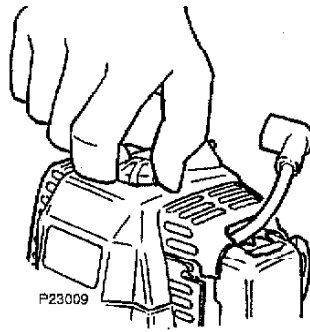

Figure 7
1. Remove the spark plug cap, then loosen the cylinder cover knob (about a dozen turns needed). See Figure 7.